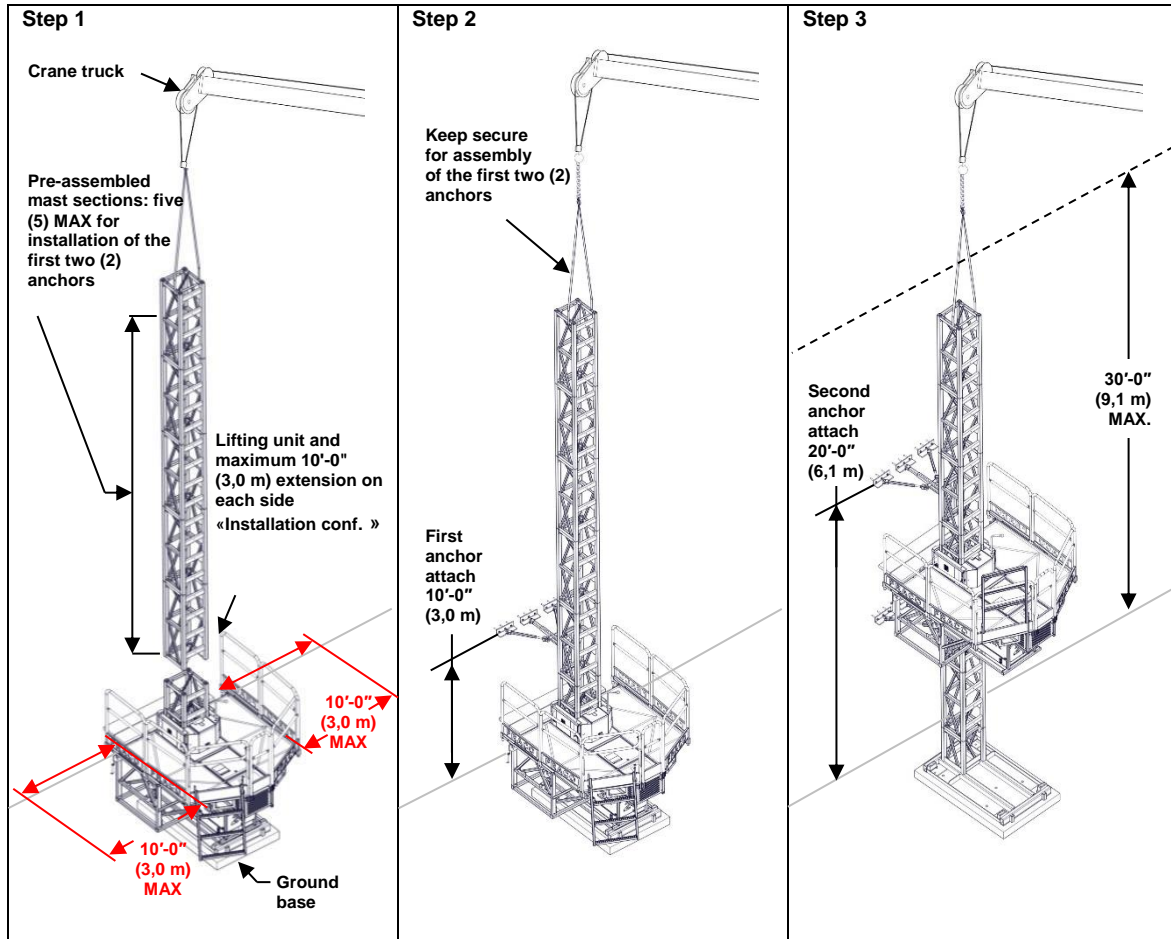

Figure 75 - Installation of masts and anchors, ground base
- Unbolt and remove the mast sections using an independent lifting equipment (crane, crane truck or forklift truck) following the same instructions as for the installation (see Figure 75). Dismantle up to a **MAXIMUM** 40'-0" (12,2 m) [eight (8) mast sections] at a time for all anchors located above the first two (2) ones.
- Continue dismantling until only the first two (2) anchor devices remain.